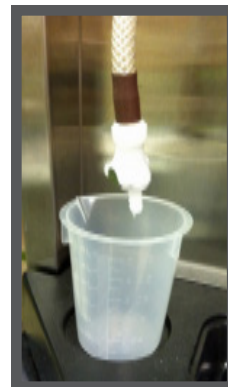

Figure 11-8 Calibration Beaker
2. Select a syrup flavor by pushing the proper button on the front of the freezer. Disconnect that mix chamber syrup tube from the front panel connector by pushing the metal clip in. Attach the coupling insert (see figure 11-7) to the fitting by pushing the mating end into the panel connector unit it clicks. Place the barb end of the coupling insert into the beaker as shown in figure 11-8.